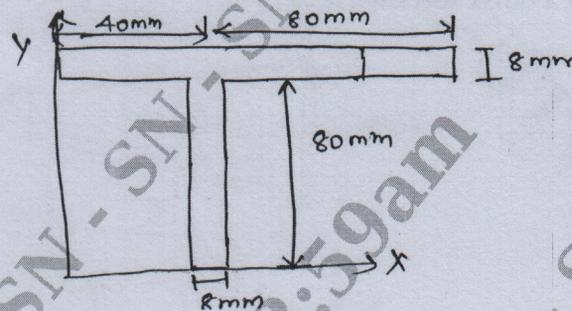

Fig. Q2 (b)
- b. Find the maximum normal stress due to bending for the section shown in Fig.Q2 (b)